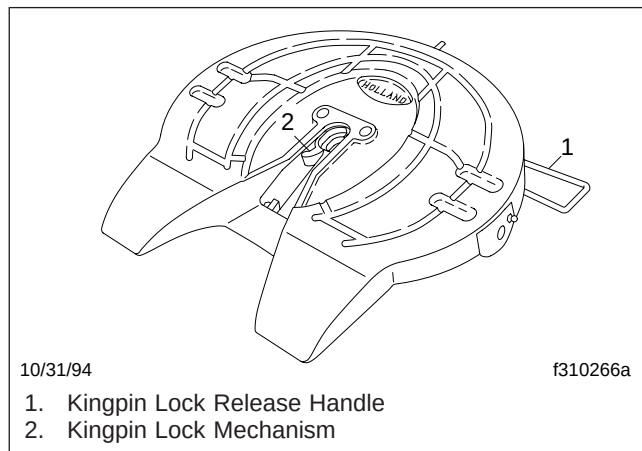

Fig. 11.1, Holland Fifth Wheel
Holland fifth wheels (**Fig. 11.1**) are bracket-mounted to the tractor frame in a position that best distributes the trailer load over the tractor axles.
6. Release the kingpin locking mechanism by pulling the kingpin lock control handle (Fig. 11.1) to the outward position.